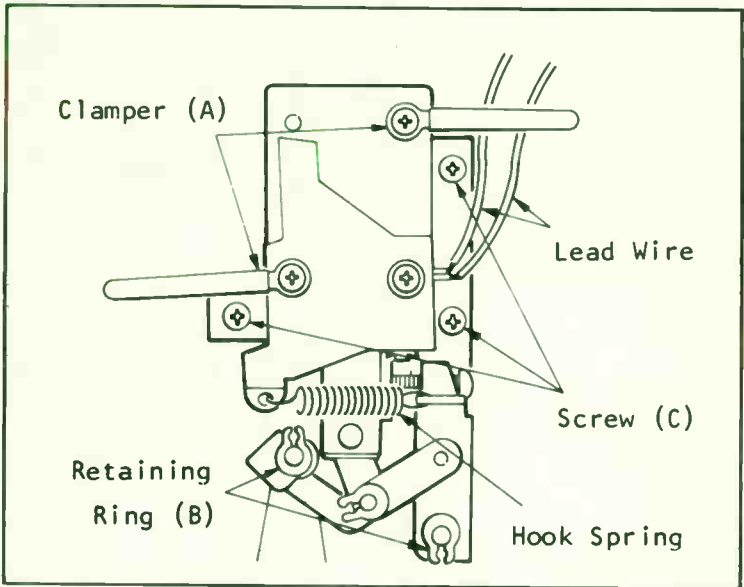

Fig. 10-18. Pressure roller/solenoid replacement (courtesy of Magnavox).
spring on the hook angle. See Fig. 10-18. Next, remove two retaining rings (B) and unsolder two leads on the solenoid.